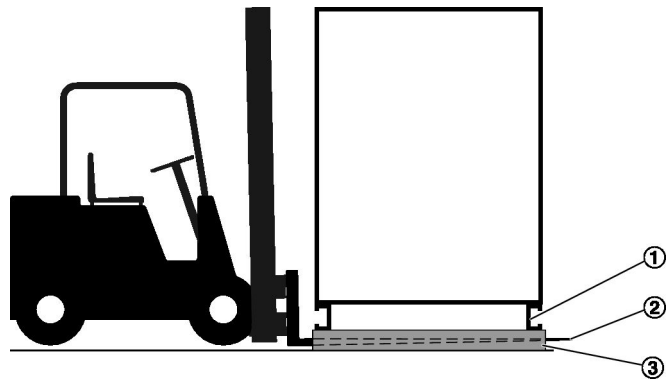

Fig. 4: Carrying load with a forklift
- 1 ▶ Drive the forklift forward until the forks (Fig. 4 /3) are fully between the square edge timber sections of the pallet (Fig. 4 /2) and protrude from underneath the base frame (Fig. 4 /1) on the opposite side.